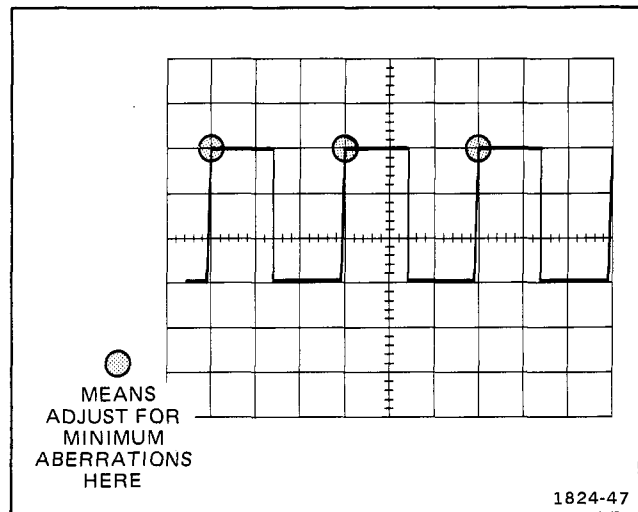

Fig. 5-4. Display of correct high-frequency compensation (idealized).
e. ADJUST—C34, C154, C200, C210, and R154 (see Fig. 7-4 for location) for minimum aberrations on the square-wave upper front corner, as shown in Fig. 5-4.